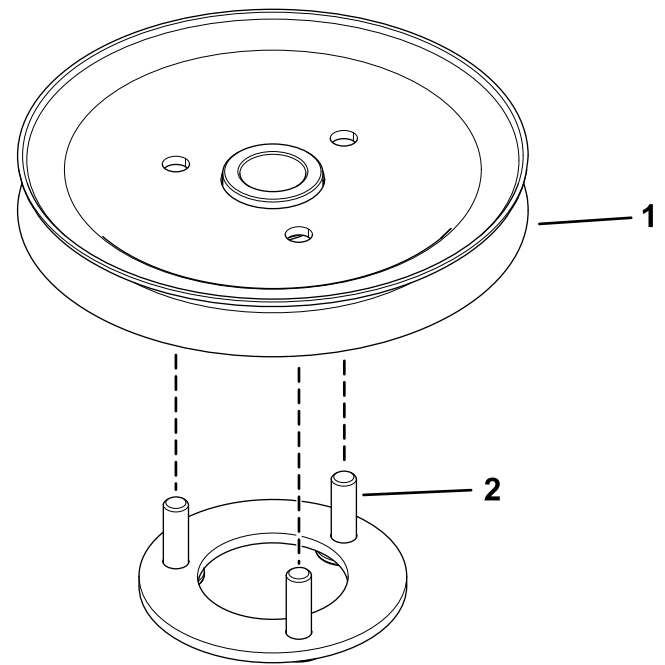

Figure 6
2. Insert the pulley-plate mount studs into the holes in the sheave (Figure 6).